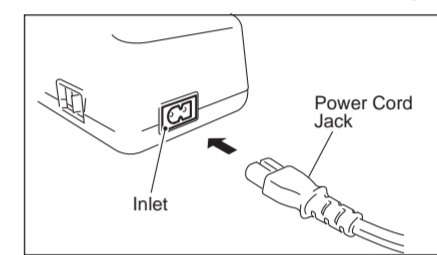

Fig. 4
- Insert the power cord jack into the inlet at the back of the battery charger. (Fig. 4)